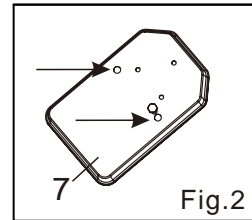

Fig.2
Select a suitable location for the drill on a workbench. Be aware of table legs and anything which might reduce access to the underneath of the workbench. A suitable mains supply socket must also be accessible for the plug. Locate the base plate(7) in the selected position. Select two suitable length bolts, washers and nuts (not supplied). Using the base plate(7) as a template drill two holes through the workbench. Bolt the base plate(7) to the bench. Do not over tighten as this could crack the cast base plate(Fig.2).